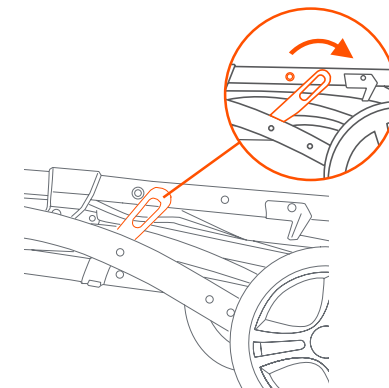
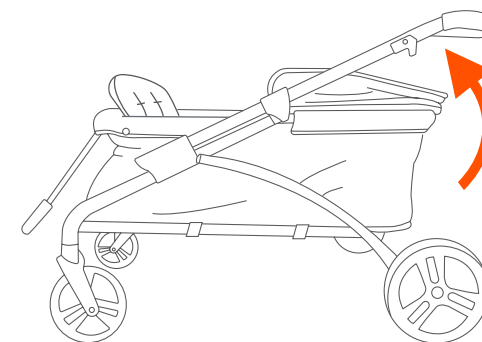

Fig. 9a
Fig. 9b
- 9) • Release the fold latch (Fig. 9a). Unfold the stroller frame by pulling the stroller handle upward until it clicks into locked position (Fig. 9b).